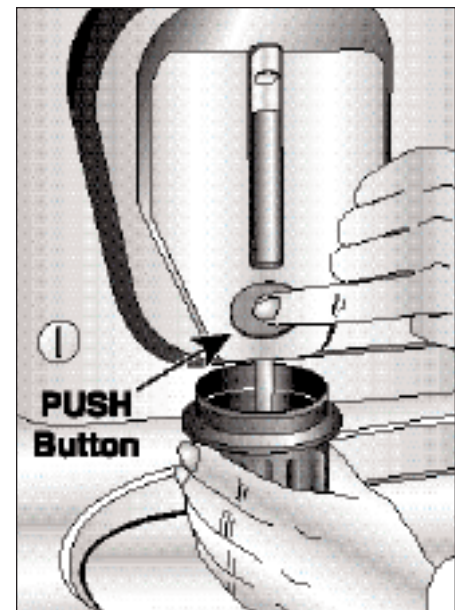

Figure 2
- 7) Place the cap of your detergent bottle under the “PUSH” button. Fill the cap with detergent from the dispenser as full as you would for most of your loads by pressing and holding the “PUSH” button (figure 2). Place the detergent from the cap either in the tub or back in the dispenser by removing the dispenser fill cap.